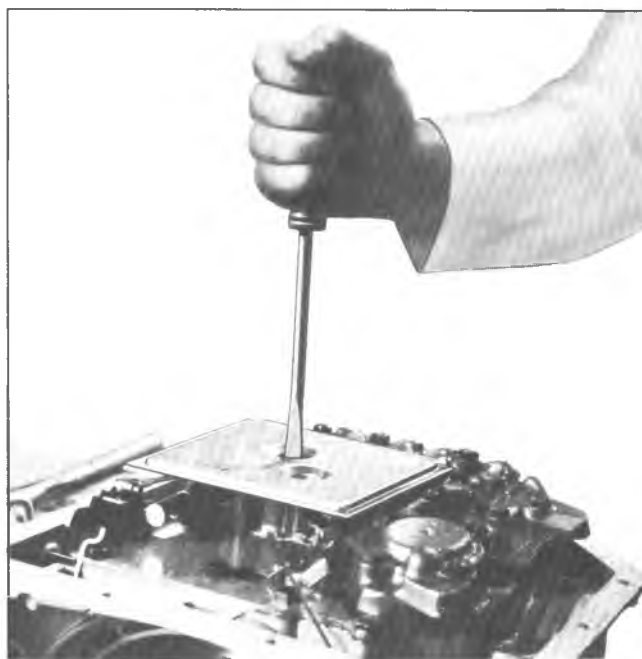

Fig. 10M--Removing Oil Pump Suction Screen (Strainer) from Valve Body
10. Remove oil pump suction screen (strainer) to valve body attaching screws (fig. 10M).